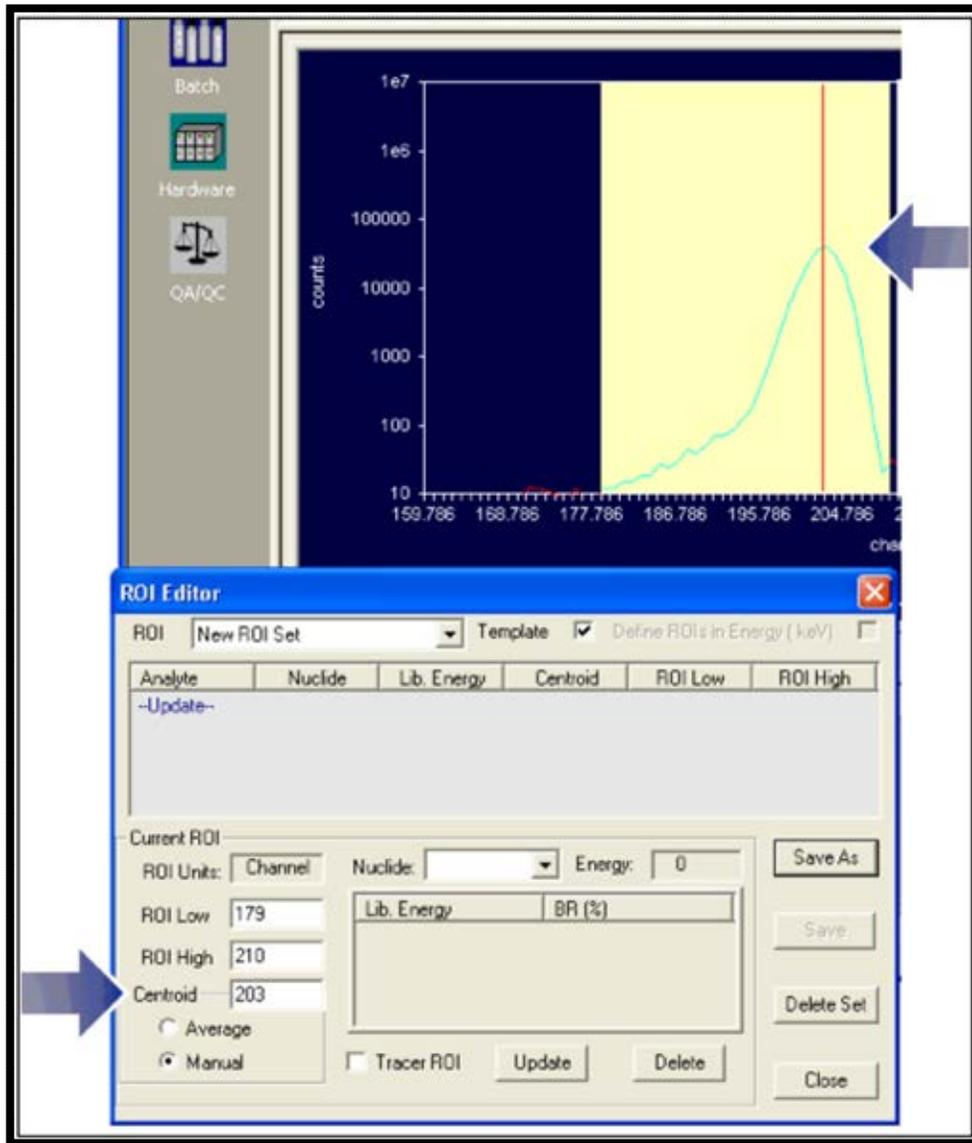

Figure 86. Click ROI Centroid to Enter it in Editor Window
- 8) Next, locate the peak centroid and click it. The channel (or energy) clicked will automatically be entered in the **Centroid** field (Figure 86). If the intended channel is missed, click again as needed to position it (or enter it from the keyboard).